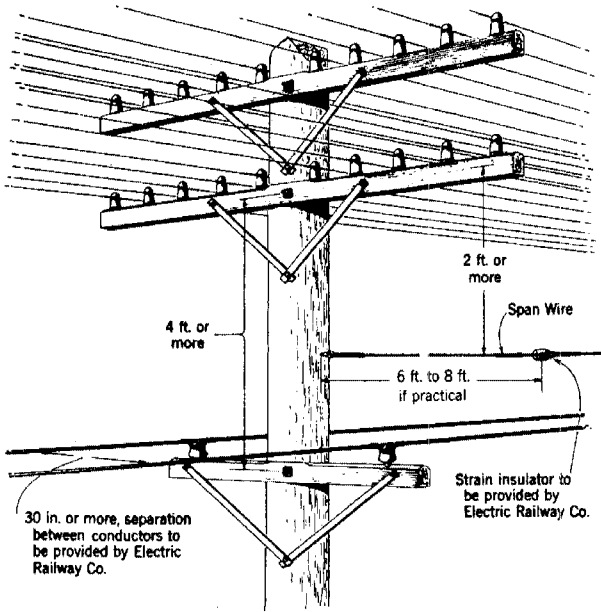

Fig. 16
7.04 General arrangements involving trolley construction are shown in Figs. 16 to 20.